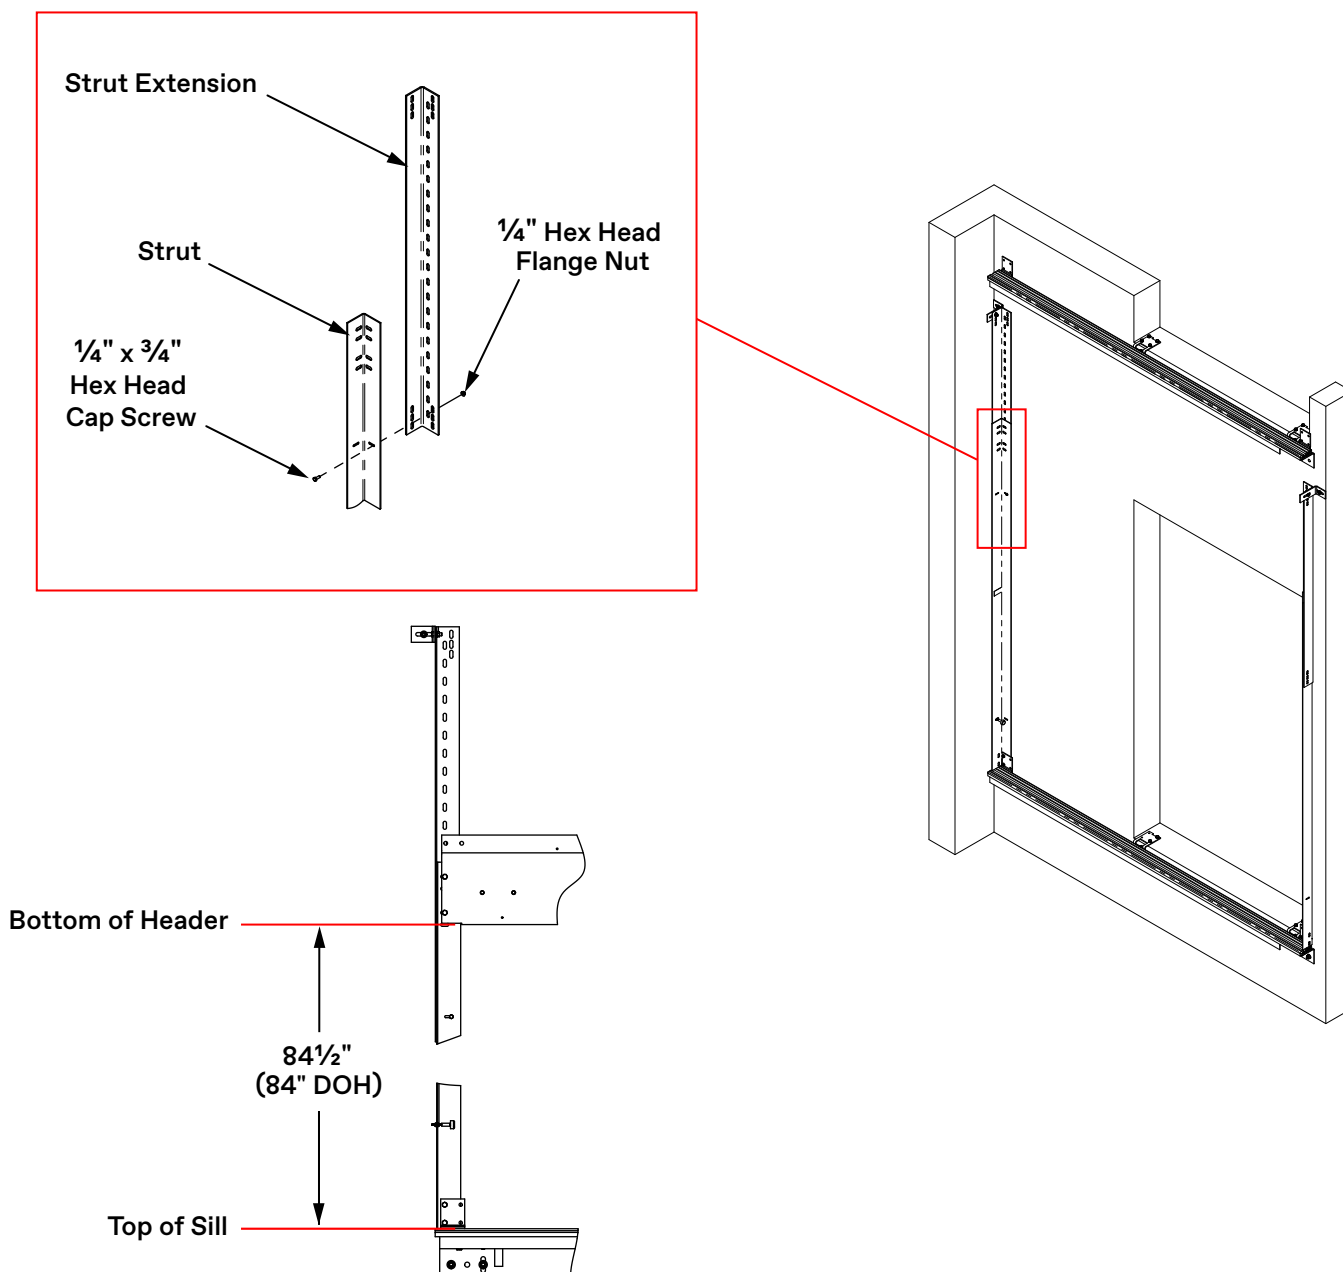

Figure 40 - Mount Header on the Struts
1. From the sill, measure the header height given in Figure 40, and mark the strut. Repeat for the other side.